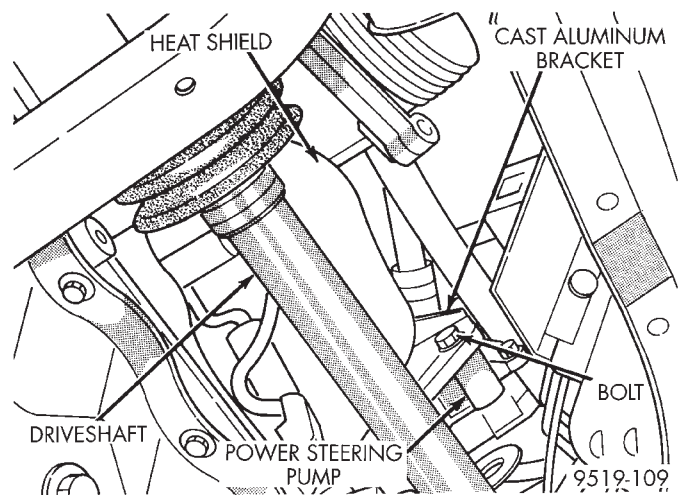

Fig. 28 Power Steering Pump Attachment To Rear Mounting Bracket
(9) Remove bolt (Fig. 28) attaching the back of the power steering pump to the cast aluminum mounting bracket.
(3) Loosely install the bolt mounting the power steering pump to its rear mounting bracket (Fig. 28).